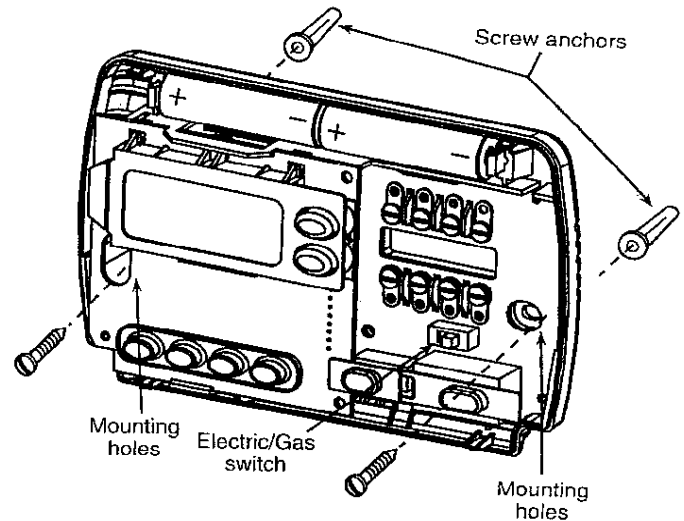

Figure 1. Thermostat Base
This thermostat is configured from the factory to operate a heat/cool, fossil fuel (gas, oil, etc.), forced air system. It is configured correctly for any system that **DOES NOT** require the thermostat to energize the fan on a call for heat. If your system is an electric heat or heat-pump system that **REQUIRES** the thermostat to turn on the fan on a call for heat, locate the **GAS/ELECTRIC switch** on the back of the thermostat (see fig. 1) and switch it to the **ELECTRIC** position. This will allow the thermostat to energize the fan immediately on a call for heat. If you are unsure if the heating/cooling system requires the thermostat to control the fan, contact a qualified heating and air conditioning service person.
5. Fasten base loosely to wall, as shown in fig. 1, using two mounting screws. Place a level against bottom of base, adjust until level, and then tighten screws. (Leveling is for appearance only and will not affect thermostat operation.) If you are using existing mounting holes, or if holes drilled are too large and do not allow you to tighten base snugly, use plastic screw anchors to secure subbase.
If **BATT** is displayed, the batteries are low and should be replaced with fresh "AA" Energizer® alkaline batteries. To replace batteries, install the batteries along the top of the base (see Fig. 1). The batteries must be installed with the positive (+) end to the left.